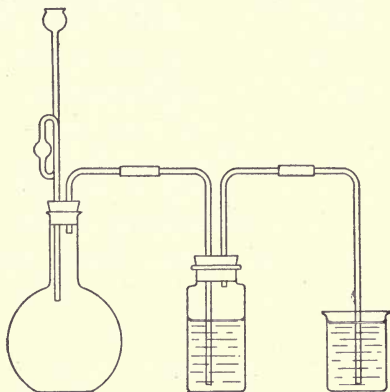

FIG. 3.
12. Attach a wash bottle and delivery tube to the generator as shown in Fig. 3. Add 2 or 3 cc. of potassium permanganate (KMnO_4) solution to a beaker half full of water. By means of the delivery tube, pass hydrogen through the solution. Do you notice any change?